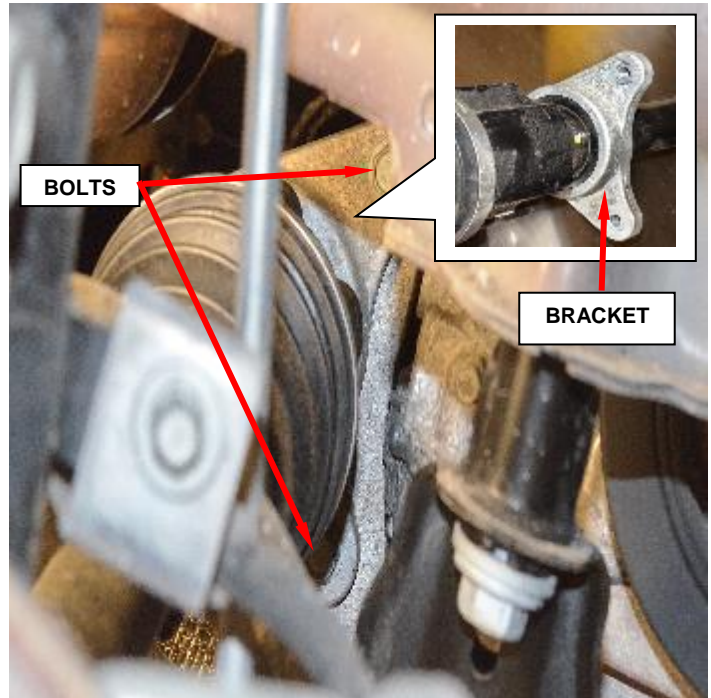

Figure 3 – Intermediate Bracket (Right Side Only)
5. Remove and save the two intermediate bracket to the engine block bolts, right side only (Figure 3).